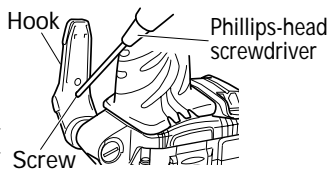

Fig. 7
- (1) Loosen the hook screw with a Phillips-head screwdriver (No. 1). (Fig. 7)